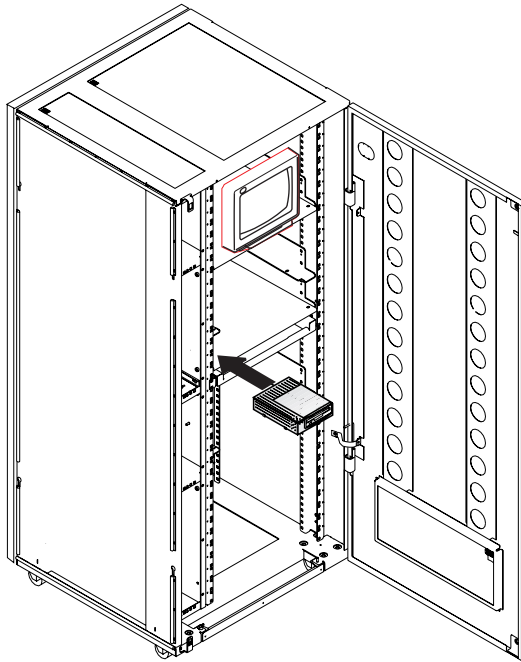

Figure 1-33. Installing the CD Drive
18. ____ Install the CD drive in the controller expansion as shown in Figure 1-33, then **go to step 20** .